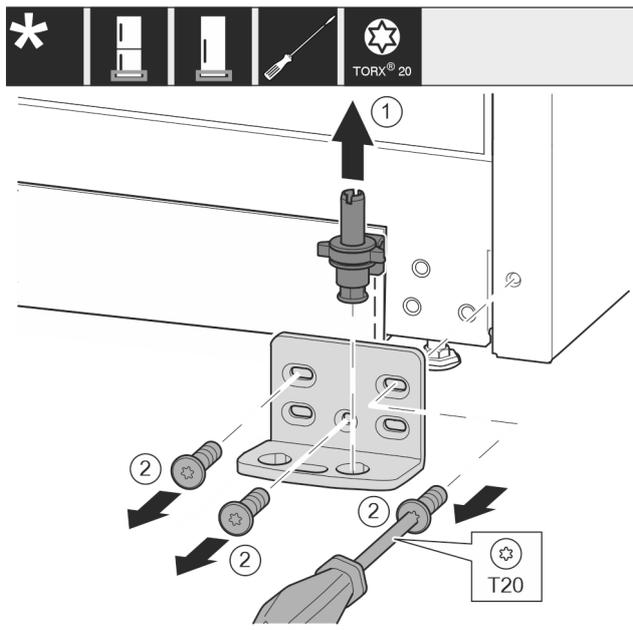

Fig. 15
- ▶ Lift the bearing pin completely upward and remove it. Fig. 15 (1)
- ▶ Remove the screws with the T20 screwdriver and take off the bearing bracket. Fig. 15 (2)